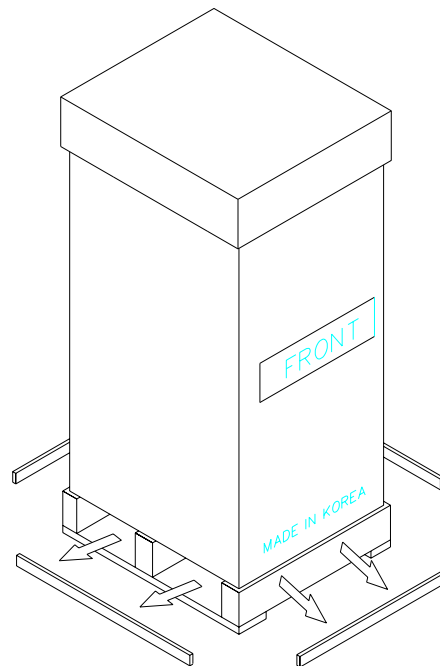

Fig. 6.2
3. Use an appropriate tool to remove the nails from the pallette. (refer to Fig. 6.2)